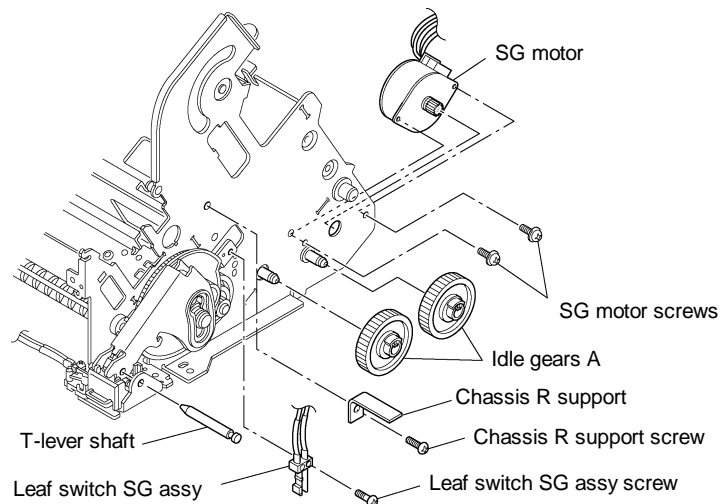

Fig. 3.12-1 Removing the Right Side of the Chassis 1
7. Remove the screws, then remove the Chassis R support. (See Fig. 3.12-1.)